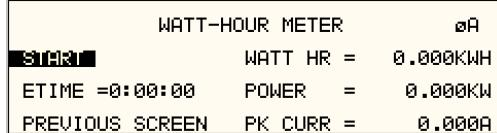

Figure 9-60 Watt-Hour Meter Screen
- The WATT-HOURS METER screen shown in Figure 9-60 has the following fields: